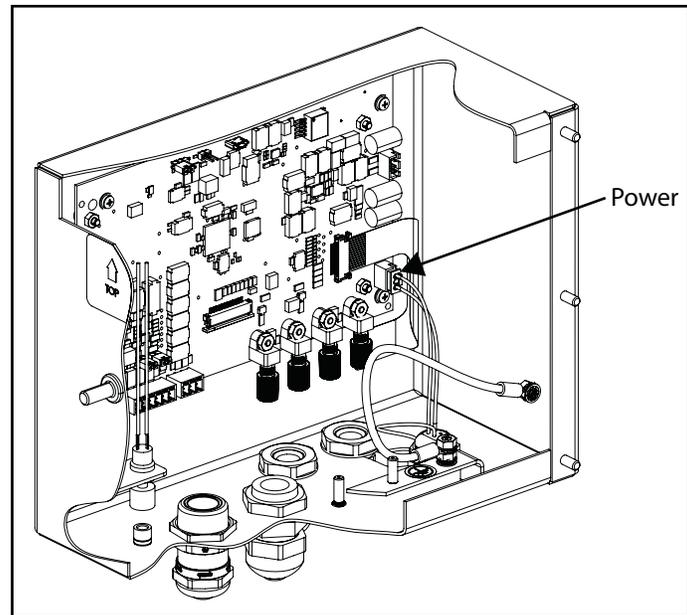

Figure 2-11. Connect Power Outlet Wiring
NOTE: The DC power cable should be attached to connector J4 (Figure 2-11 on page 25).
2. Connect the plug to the J3 connector on the CPU board (see Figure 2-11).